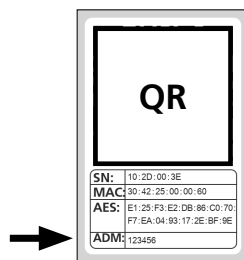

Fig. 3
- 3 A prompt will appear asking you to scan the cylinder QR code provided using your smartphone camera (Fig. 3). The QR code is on the sticker enclosed in the packaging (Fig. 4).
! Attention: The set comes with two QR code stickers, one for the cylinder and one for the keypad. You can identify the QR code required here for the cylinder by the administrator code at the bottom of the sticker, marked "ADM" (Fig. 3).